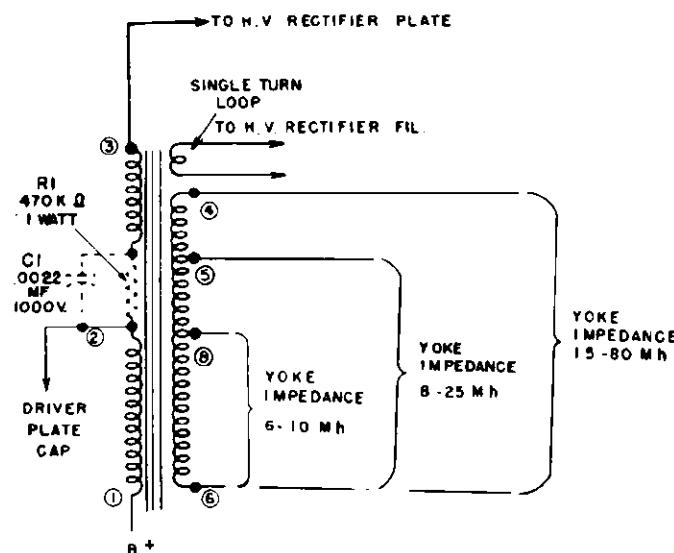
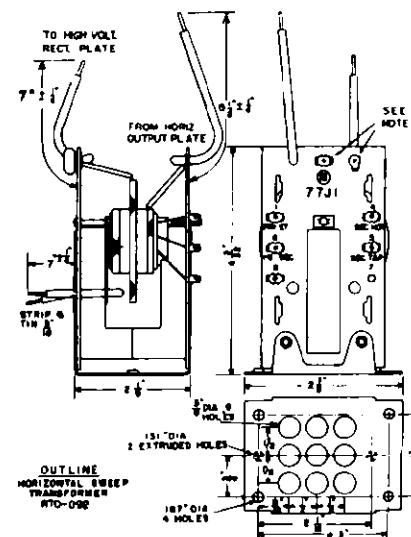

FIG. 1. SCHEMATIC DIAGRAM
FIG. 2. DIMENSIONAL OUTLINE
- B. A resistor and capacitor (R1, C1, Figure 1) or wire jumper must be connected across the two terminals on the top of the transformer (terminals shown in Figure 2). The resistor and capacitor are a UL requirement in certain TV circuits where specified as original equipment on the schematic. For this type replacement remove the resistor and capacitor from the old transformer and install them on the new one. A wire jumper may be substituted where the resistor and capacitor are not specified.